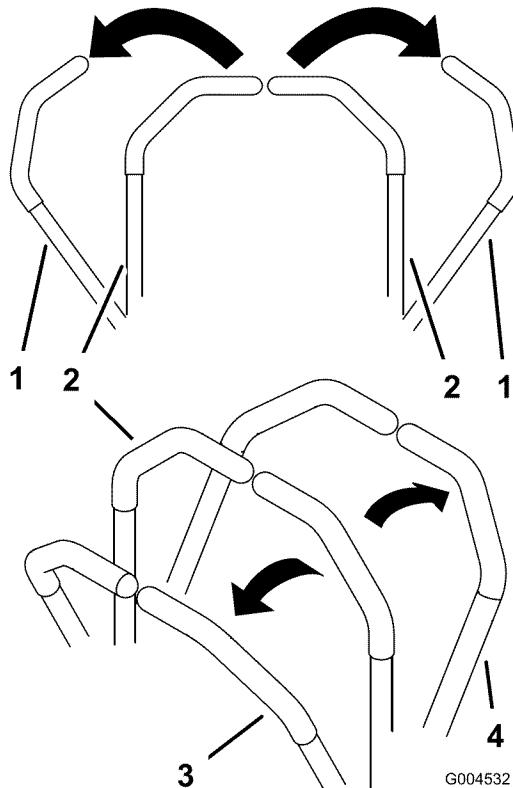

Figure 15
2. To go forward, slowly push the motion control levers forward (Figure 15).
To go straight, apply equal pressure to both motion control levers (Figure 15).
To turn, release pressure on the motion control lever toward the direction you want to turn (Figure 15).
2. To go backward, slowly pull the motion control levers rearward (Figure 15).
- To go straight, apply equal pressure to both motion control levers (Figure 15).
To turn, release the pressure on the motion control lever toward the direction you want to turn (Figure 15).